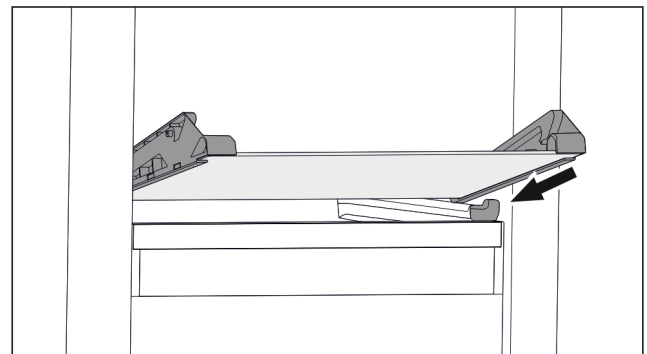

Fig. 104 Tilting drawer glass shelf
- Position glass shelf at an angle behind the stoppers. (see Fig. 104)